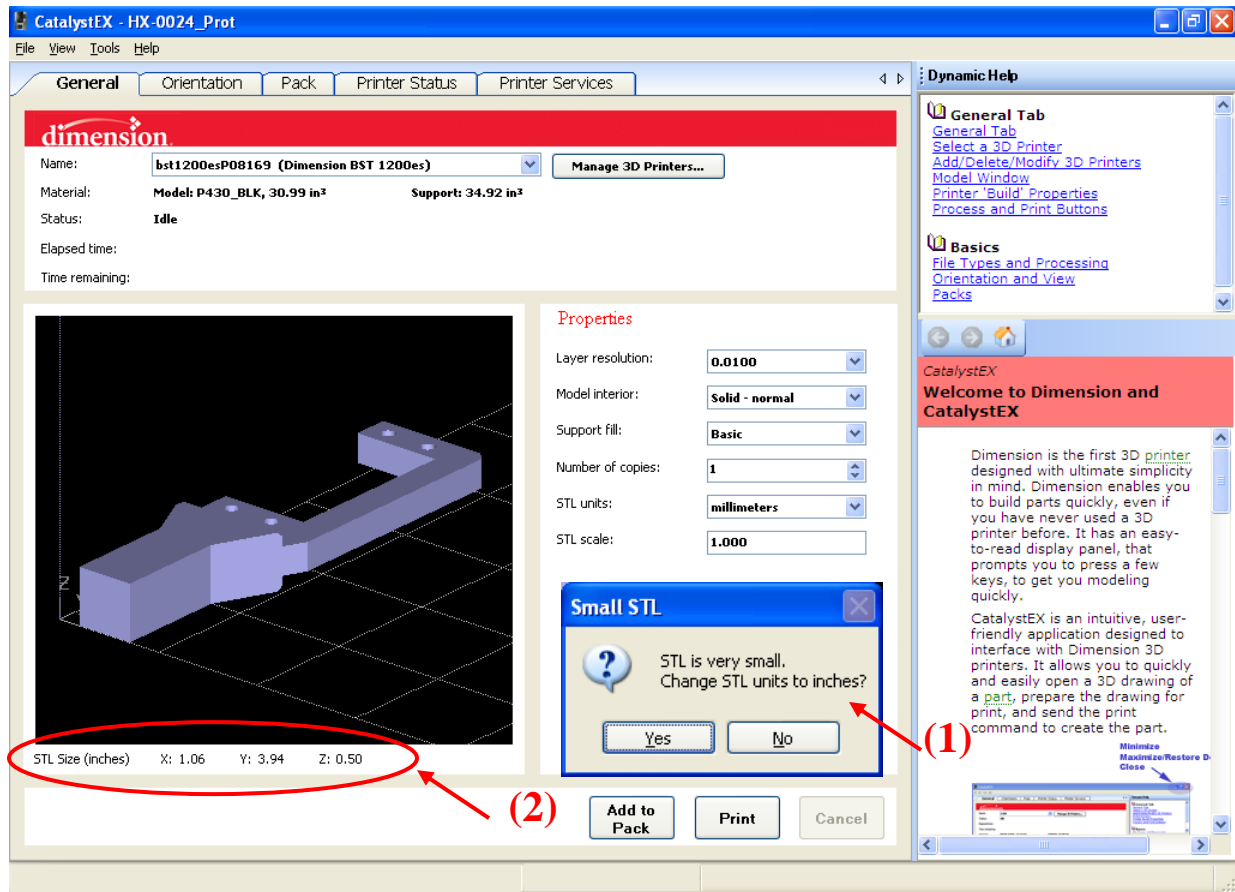

Figure 1.01 – Importing a STL
- Browse to file, and open it (Figure 1.01)
- (1) If a message comes up that says your file is very large/very small, and asks you if you want to switch the units, accept the changes.
- (2) Check that the approximate model size is correct (orientation isn’t important).